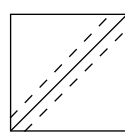
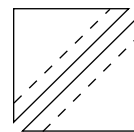
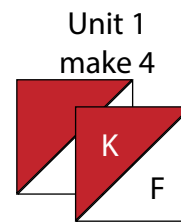

Fig. 1
Fig. 2
Fig. 3
1. Place (1) 3 ⅞" Fabric F square on top of (1) 3 ⅞" Fabric K square, right sides together. Draw a line across the diagonal of the top square (Fig. 1). Sew ¼" away from each side of the drawn diagonal line (Fig. 1). Cut the (2) squares apart on the drawn diagonal line (Fig. 2) to make (2) half-square triangles. Trim the half-square triangles to measure 3 ½" square to make (2) Unit 1 squares (Fig. 3). Repeat to make (4) Unit 1 squares total.